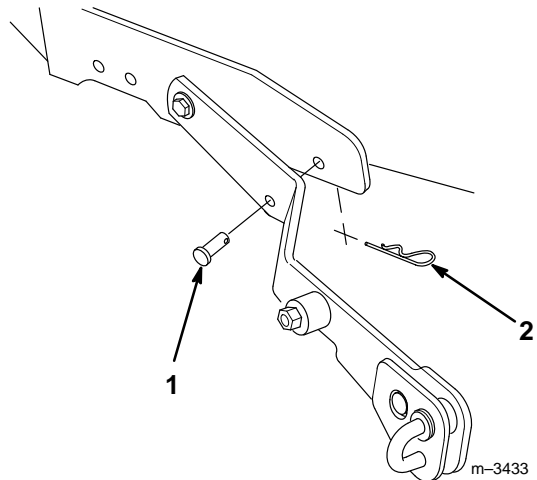

Figure 3
3. If you have previously had a snowthrower, blade or tiller attached to the attachment lift, remove the two clevis pins on each side of the attachment lift (Fig. 3).